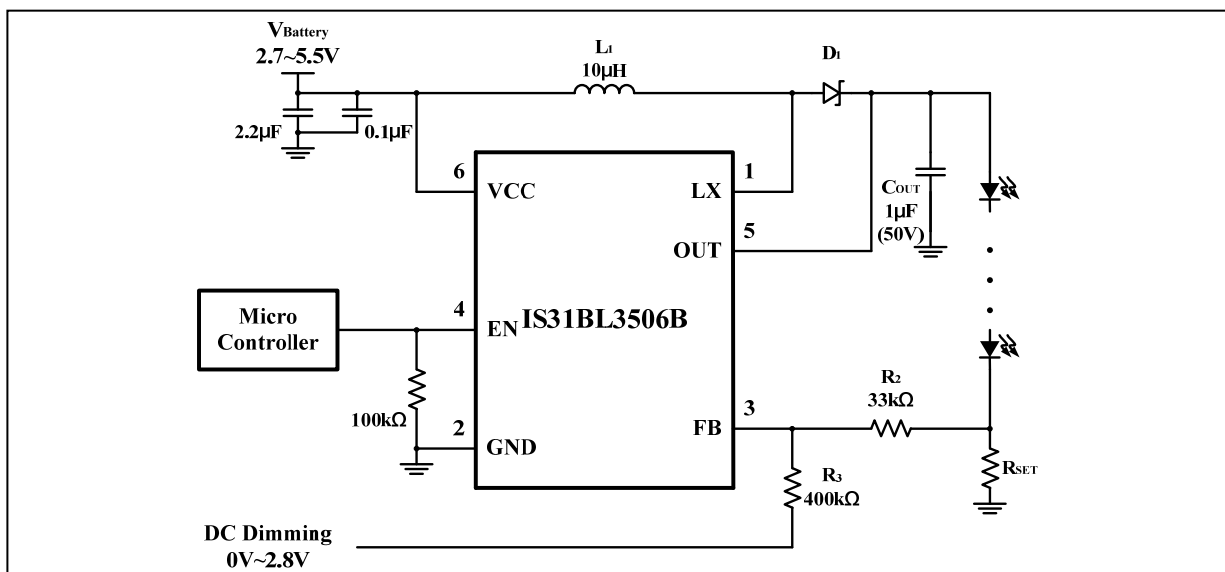

Figure 4 Constant Output Current With DC Dimming Input
The schematic of Figure 4 shows an example of using a DC input voltage at the FB pin to implement LED dimming. When the DC input voltage increases, the current through R_2 and R_3 increases producing an offset voltage across R_2 , thereby causing the LED current to be reduced. The LED current may be computed using the following equation, (3). V_{FB} is 0.2V (Typ.).